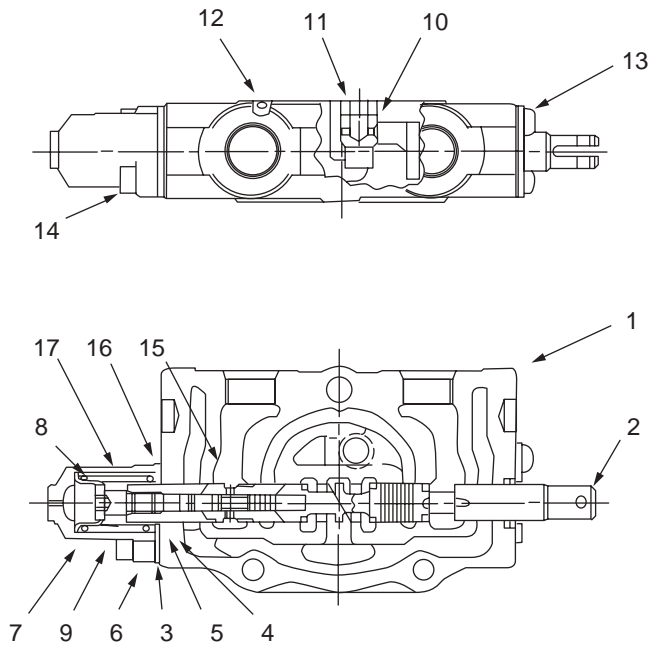
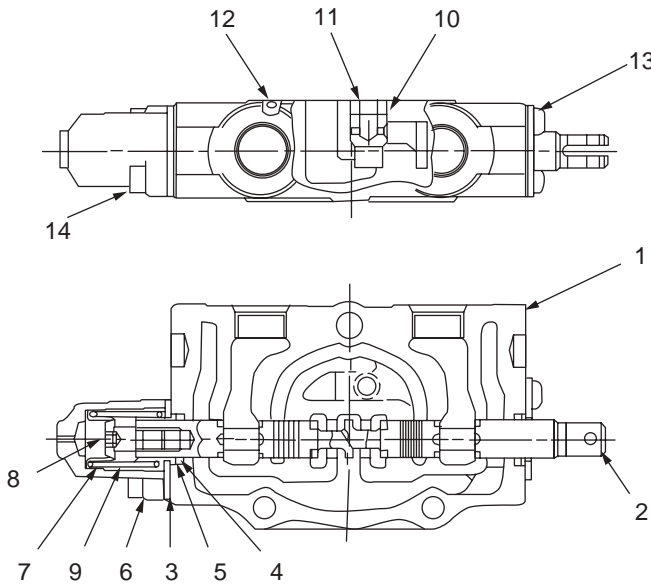

Fig. 40-4
Fig. 40-5
- ★ For double-valve models, tighten the tilt housing to the lift housing with bolts (1), (3) and washers (2), (4).
3. In the attached parts lists **Fig. 40-3**, **Fig. 40-4** and **Fig. 40-5**, insert O-ring (4) and wiper (5) into the seal groove on the spool head side, and then tighten seal plate (3) with screw (10) or (13).
In **Fig. 40-3**, **Fig. 40-4** and **Fig. 40-5**, insert O-ring (4), wiper (5), and seal plate (3) sequentially into spool (2), put spring (9) between spring seats (7), and secure it onto spool (2) with cap screw (8). Grip spool (2) in a vise with hard wood blocks (**Fig. 2-1**) on both sides to protect the spool from damage. Grease the outer surface of spring (9). Be careful of the orientation of the wiper.